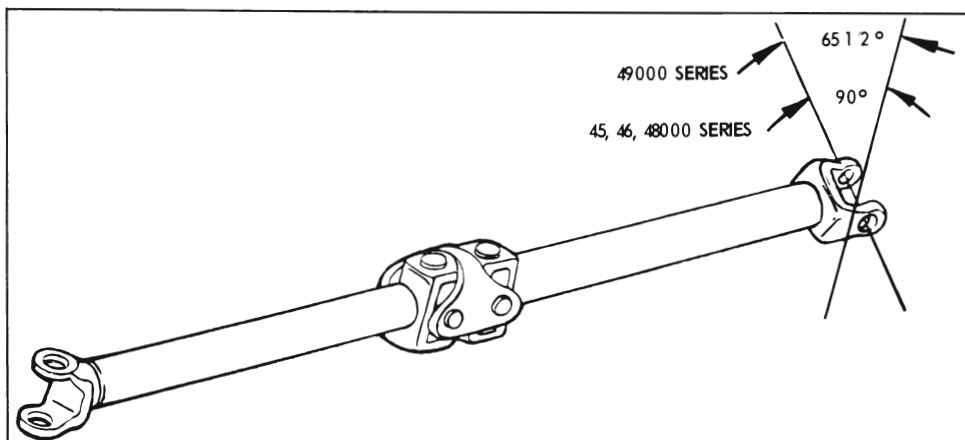

Figure 6-110—Propeller Shaft Phasing
2. Align the index spring with the missing internal spline in the rear end of the front propeller shaft, and slide the slip joint together. See Figure 6-110 for proper phasing of the propeller shaft.